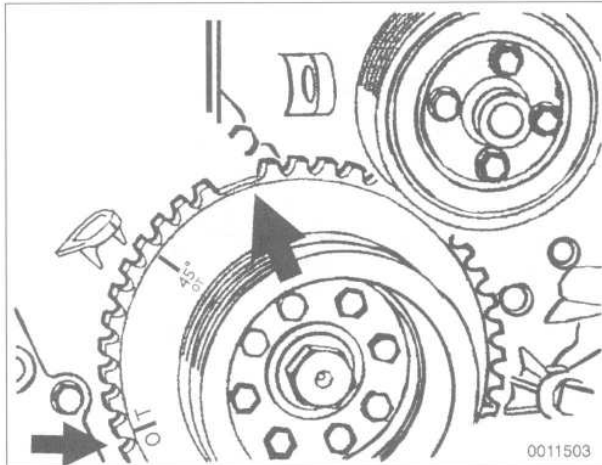

Fig. 51. Crankshaft vibration dampener positioned at 45° BTDC. Note position of O/T mark and gap in toothed wheel (arrows).
17. Slowly turn engine over (away from direction of normal rotation) until cylinder no. 1 is at 45° before TDC (BTDC). See Fig. 51.